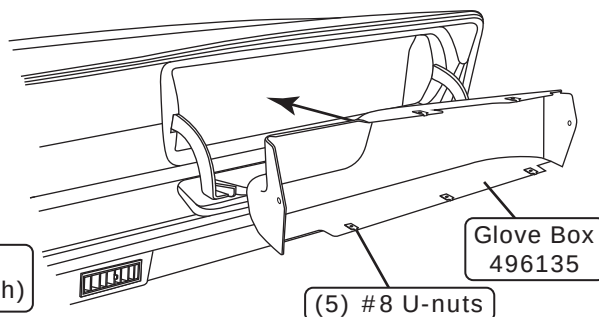

Figure 2
5. Install (5) #8 U-nuts onto glove box, and install glove box in glove box compartment (See Figure 2, below).